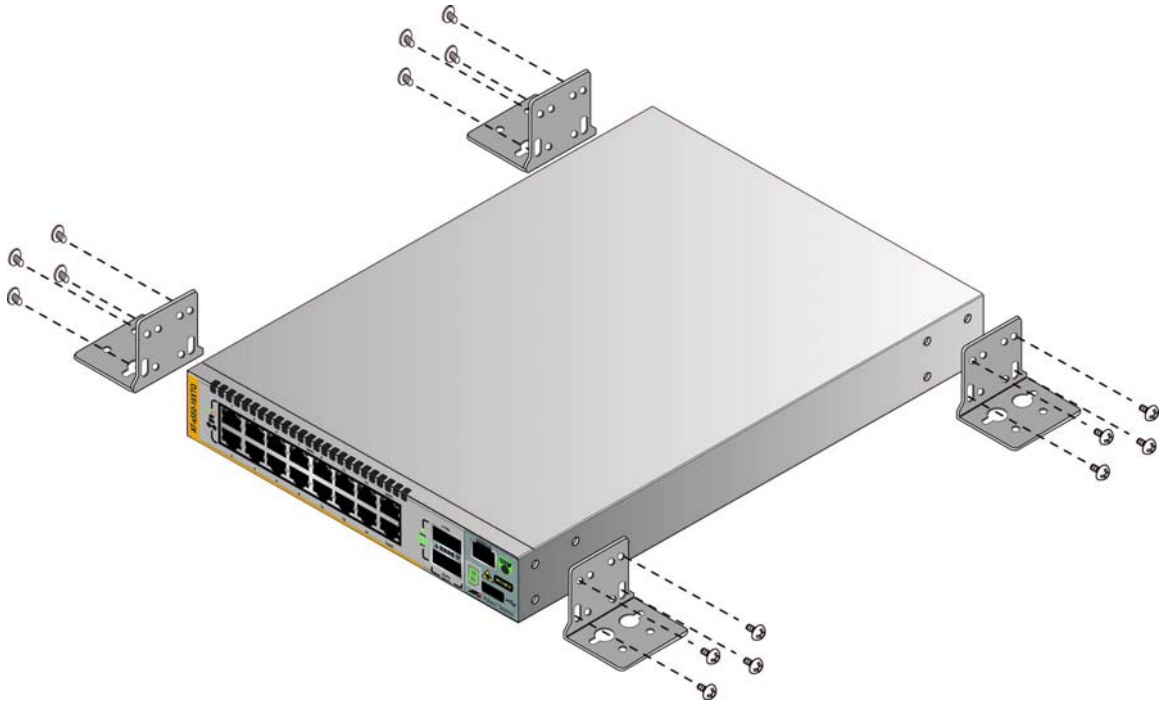

Figure 36. Installing the Wall Brackets
2. Install the four wall brackets to the sides of the unit, with the sixteen M4x6mm screws included with the switch. Refer to Figure 36 on page 79.
- Position the switch so that the front panel is either on the left or right. Refer to Figure 36. You may not install the switch with the front panel facing up or down.